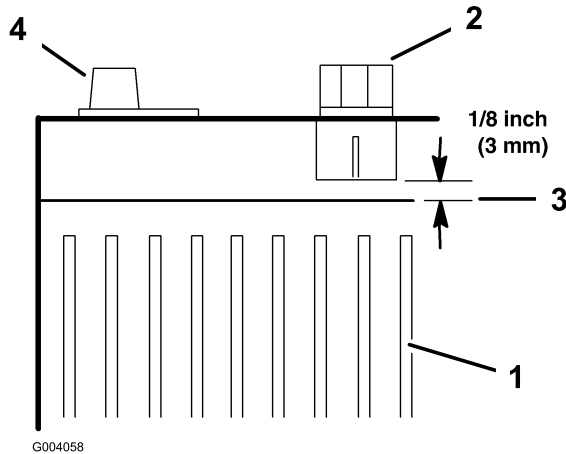

Figure 28
7. Add just enough distilled water to bring the electrolyte level to 3 mm (1/8 inch) below the bottom of each fill well (Figure 28).